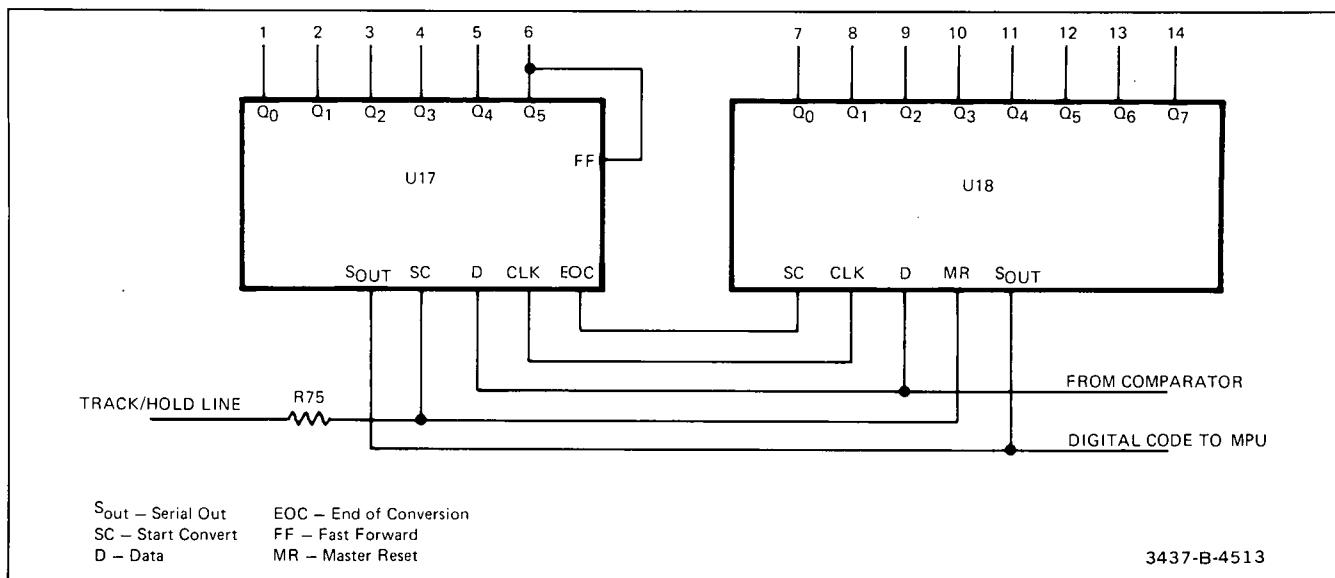

Figure 4-7. Successive Approximation Registers.
**4-34. Successive Approximation Register.** The successive approximation register provides the digital control and storage necessary to implement the successive approximation conversion process. Two cascaded 8 bit registers, illustrated in Figure 4-7, provide the capability to generate the 14-bit code.